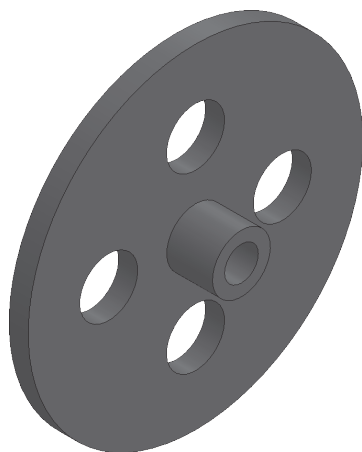

Fig. 26
Step 2. In the Appearances Task Pane expand **Plastic**, click **High Gloss** and in the lower pane click **dark grey high gloss plastic**, Fig. 26.